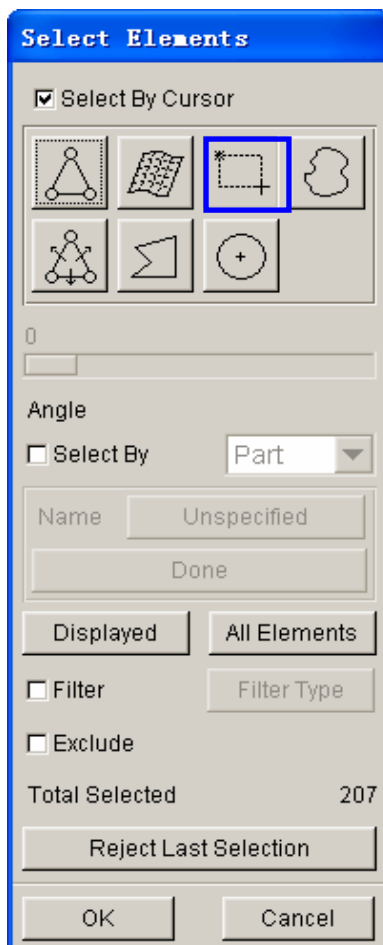
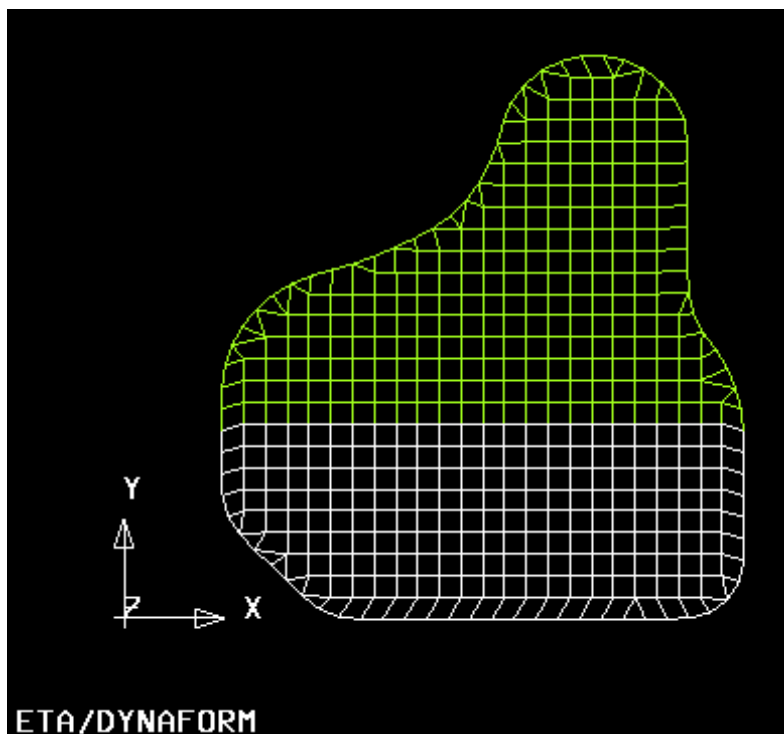

Figure 5.29 Select elements dialog box
Figure 5.30 Selected elements
4. Click **Split part** button to display the SELECT ELEMENTS dialog box illustrated in Figure 5.29. From the dialog box, press **Drag Window** icon to select elements highlighted in Figure 5.30.